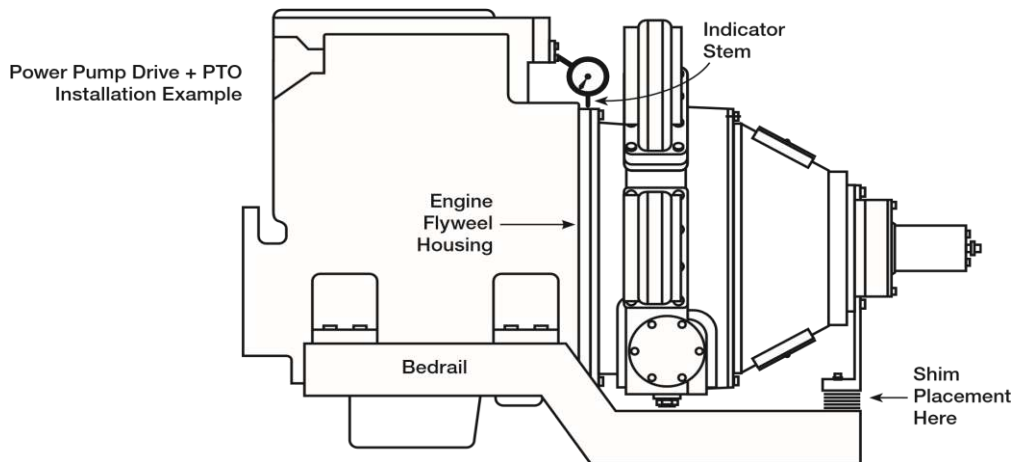

Figure 2
- 3.2 Locate a dial indicator as per Fig. 2 and set it to zero in order to detect an eventual flywheel housing deflection.
- 3.4 Carefully release the lifting force and properly shim as shown on Fig. 2 in order keep the dial indicator at zero. If indicator changes after bolts are tightened, re-shim until indicator remains at zero.